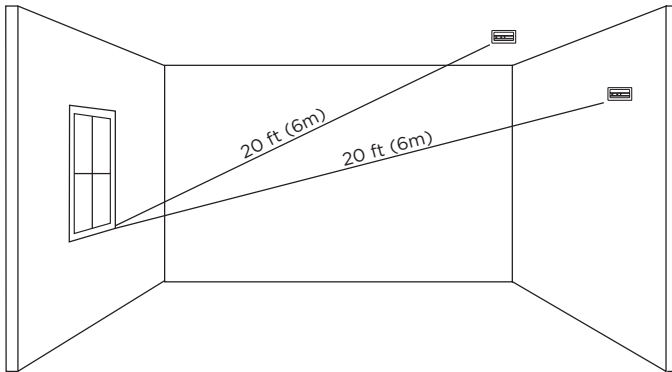

Figure 4: 1128 Detection Range
- On the opposite wall of the window that it's protecting (see Figure 4 for detection range)